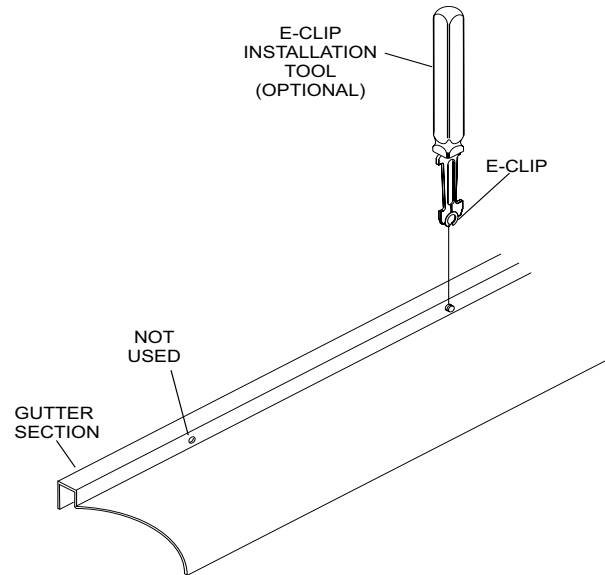

Figure 8
10. Turn the gutter over and reinstall the e-clips on all pins. Verify that all E-clips are fully seated in the groove of the pin. Refer to Figure 8. Use of the optional E-clip installation tool will assure clips are installed properly and quickly.